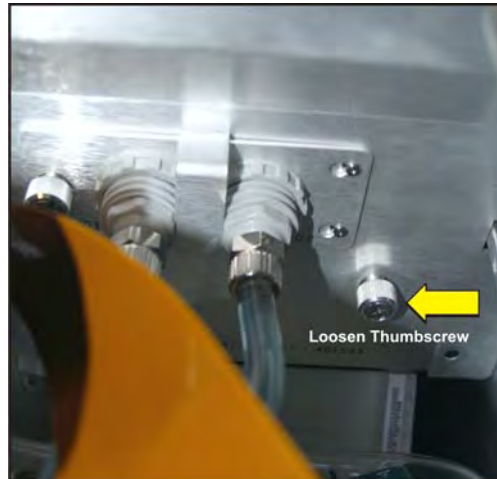

Figure 5-30 Remove IOS Access Plate
4. Remove the IOS access plate located on the security firewall by loosening the thumbscrew from the light engine compartment. **(Figure 5-30)**